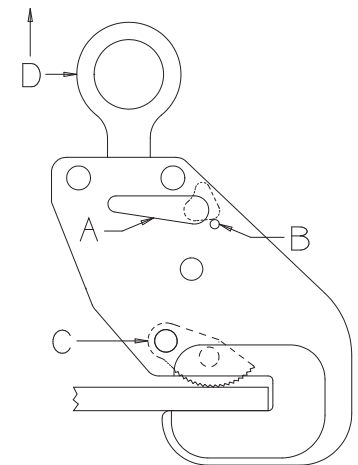

Figure 4: Locked Close
5. Secure the clamp in the lock closed position. Do this by seating the material in the clamp jaw opening with the lower jaw against the material and rotating the lock handle (A, Fig. 4) until the lock inside the body is positioned against the stop (B, Fig. 4). The gripping cam(s) (C, Fig. 4) will rotate into the jaw and engage the material at the point where they will bite into the material once the load is applied.
8. The lock spring (SC-61, Fig. 5) must have a definite amount of tension when the lock is moved to the Lock Closed position (Fig. 4), with minimal material in the clamp.
- Inspect the lock spring for distortion. The lock spring must have a definite amount of tension when the lock handle assembly is moved to the Lock Closed position (Fig. 4), with minimal material in the clamp.